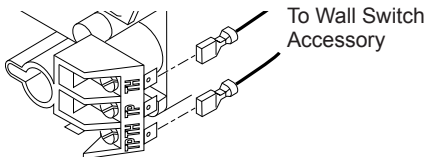

Figure 37 - Connecting Wall Switch to Control Valve
1. Connect one terminal of 25 ft. wire for the wall switch to the TPTH terminal on the valve. Connect remaining wire terminal to the TH terminal on the valve. Make sure that the wire terminals are in the positions on the unit as pictured in Figure 37. If wires are not connected as shown the switch will not work.